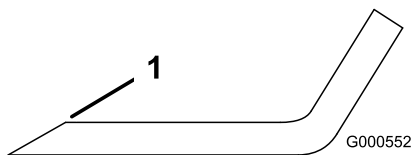

Figure 55
1. Use a file to sharpen the cutting edge at both ends of the blade (Figure 55).
Note: If the blade is not balanced, file some metal off the end of the sail area only (Figure 55).